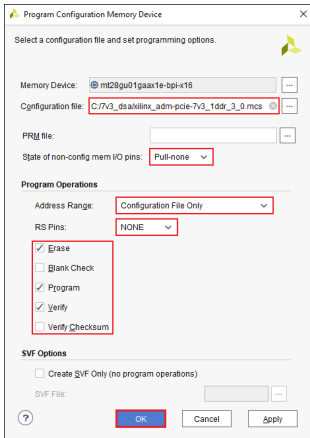

Figure 12 : The Program Configuration Memory Device window
- 11) From the **Program Configuration Memory Device** window, fill the **Configuration file** field with the path to the ADM-PCIE-7V3 DSA MCS file that was copied over from the Host Machine then make sure that the settings match those seen in Figure 12.